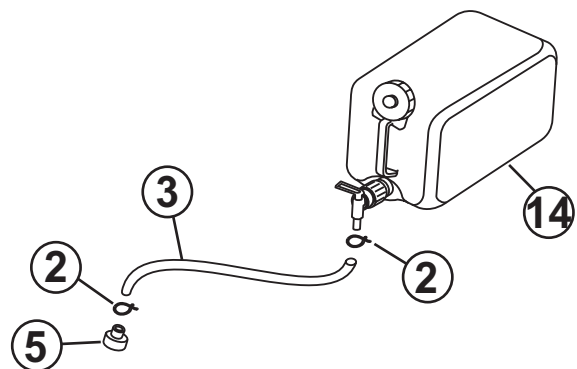

Figure 26. Hose and Clamps
6. Connect the Swivel Connector (item 5, Figure 26) to one end of the hose (item 3) with clamp (item 2).
7. Remove the hard plastic tube from the valve on the Water Tank (item 14). Slide this tube into the open end of the hose (item 3) to a depth of approximately 1 inch (25.4mm). Fasten with clamp (item 2).